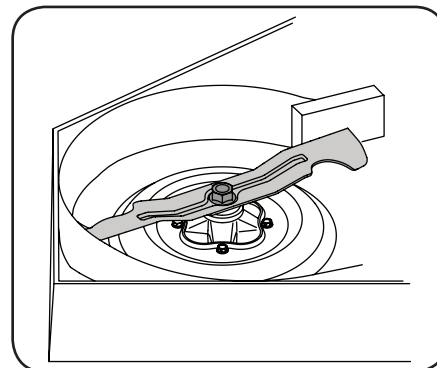

Figure 4-21
2. Use a 1-1/8" wrench to hold the hex nut on top of the spindle assembly when loosening the bolt securing the blade. A block of wood may be placed between the deck housing and the cutting edge of the blade to help in breaking loose the hex nut securing the blade. See Figure 4-21.